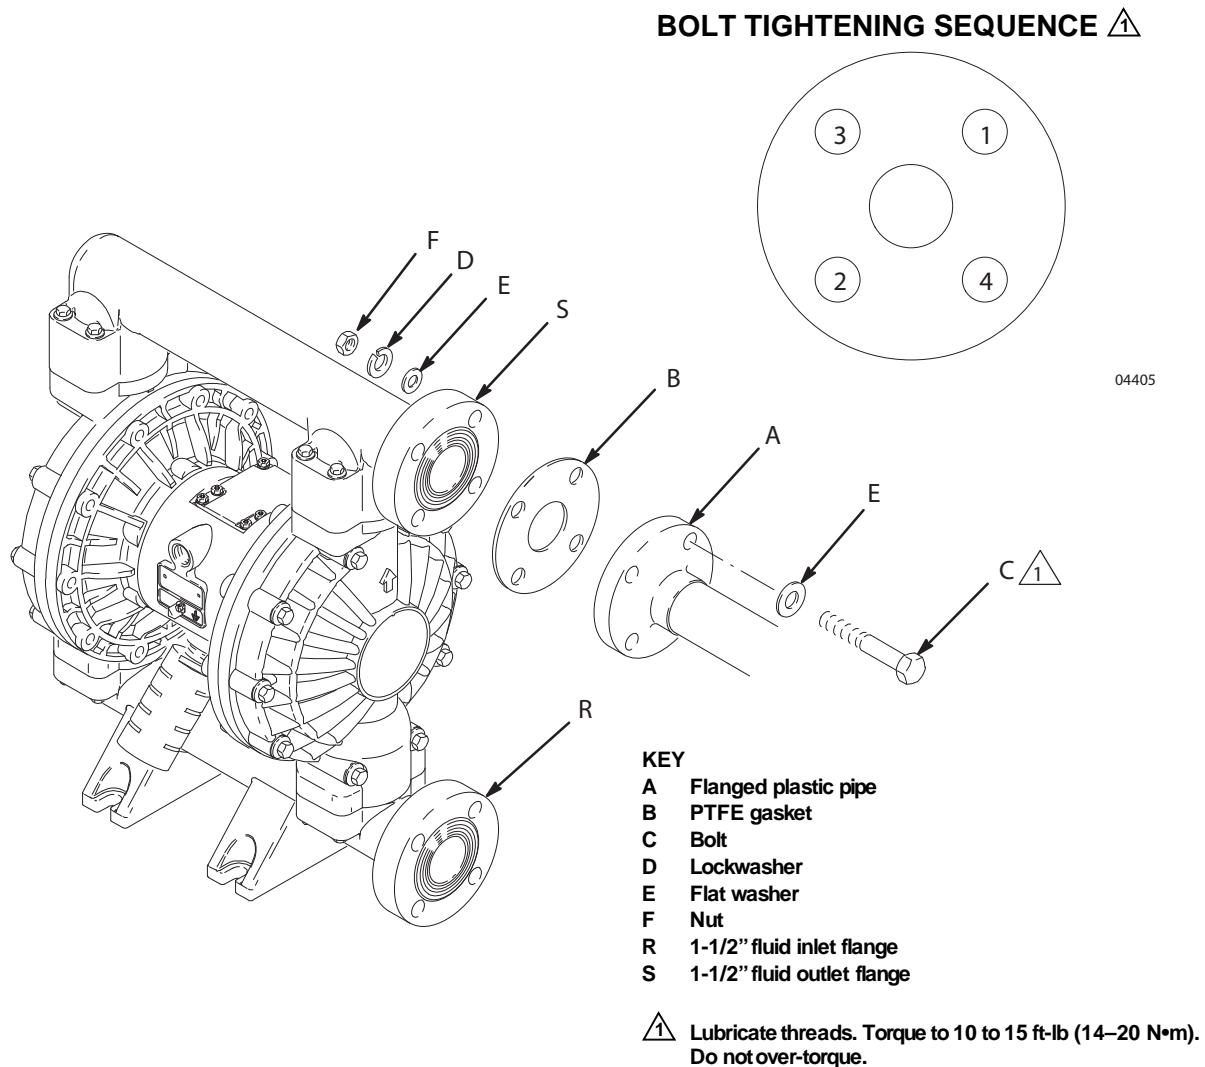

Fig. 3.
1. Place a flat washer (E) on each bolt (C). Refer to Fig. 3.
2. Align the holes in the gasket (B) and the pipe flange (A) with the holes in the pump outlet flange (S).
3. Lubricate the threads of the four bolts. Install the bolts through the holes and secure with the washers (E), lockwashers (D), and nuts (F).
4. Hold the nuts with a wrench. Refer to the tightening sequence in Fig. 3 and torque the bolts to 10 to 15 ft-lb (14 to 20 N•m). *Do not over-torque.*
5. Repeat for the pump inlet flange (R).